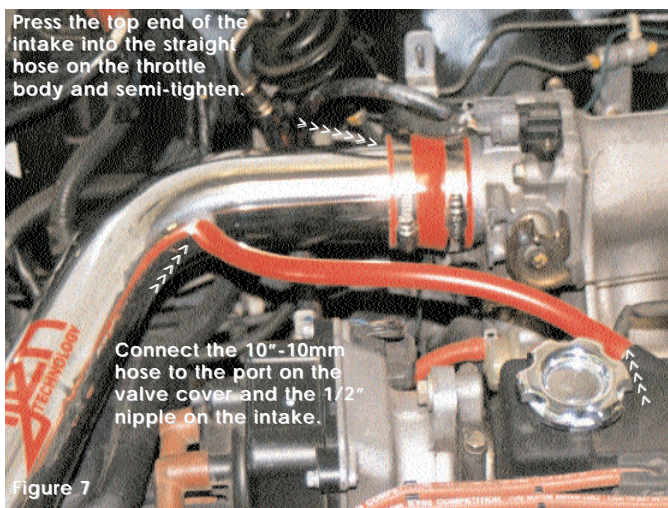

Figure 7
The bracket should sit flush on top of the vibra-mount, then slowly insert the top portion of the intake into the hose on the throttle body and semi- tighten a clamp on the throttle body side. Once the cold air intake has been aligned take the m6 nut and washer and fasten in place. (See figures 7, 8 and 9)
- 8- Take the 10"-10mm hose and place one end over the port of the valve cover and press the other end over the 1/2" nipple on the cold air intake. (See fig. 7)